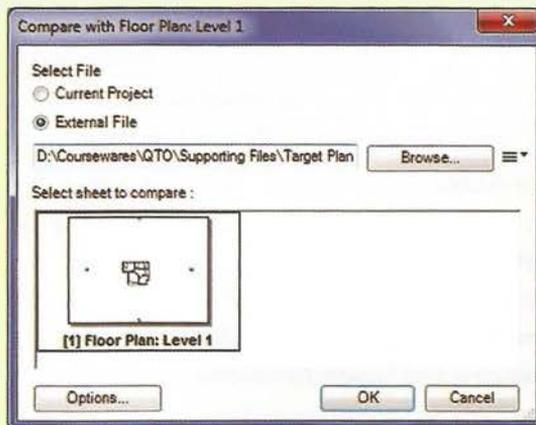

Fig 2: Compare
- Select 'External File' option and browse to the given 'Target Plan.DWF' (Figure 2)